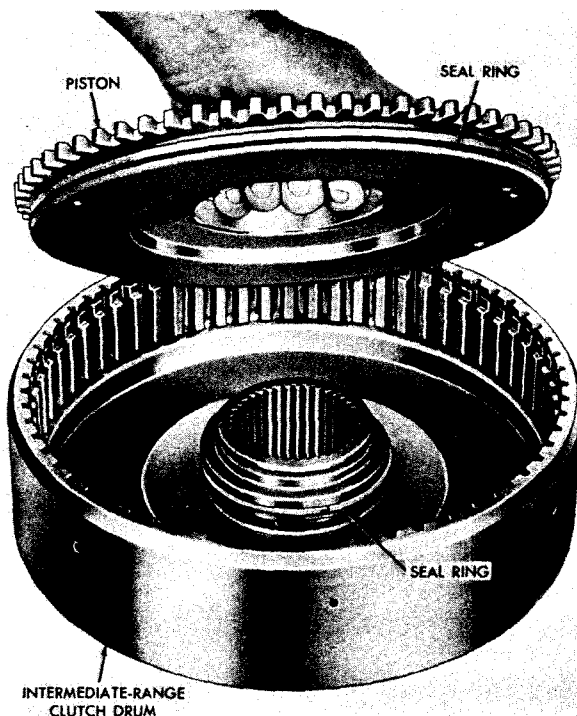

Fig. 6-21. Removing (or installing) intermediate-range clutch piston assembly
(3) Remove the piston return spring and the piston assembly (fig. 6-21). The piston assembly can be dislodged by bumping the clutch drum on a flat wood surface.
(4) Remove the hook-type seal ring from the inner hub of the clutch drum (fig. 6-21).
(1) Install the hook-type seal ring onto the inner hub of the clutch drum (fig. 6-21).
(2) After installing the outer seal ring 4 (B, foldout 10) and expander 18 (if used), lubricate the hook-type seal ring and the outer circumference of the piston. Install the piston assembly, flat side first, into the clutch drum (fig. 6-21).